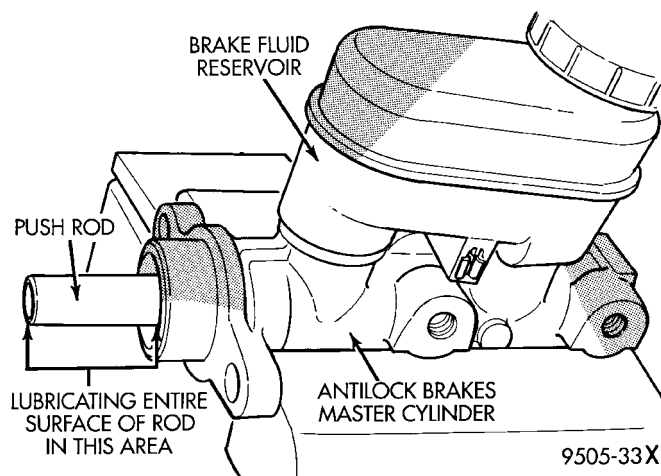

Fig. 109 Lubricating Master Cylinder Push Rod
(1) Lubricate master cylinder push rod as indicated in (Fig. 109) only using **Mopar Dielectric Grease—And No Substitutes**. Refer to the Mopar Chemicals Catalog to obtain the required lubricant.